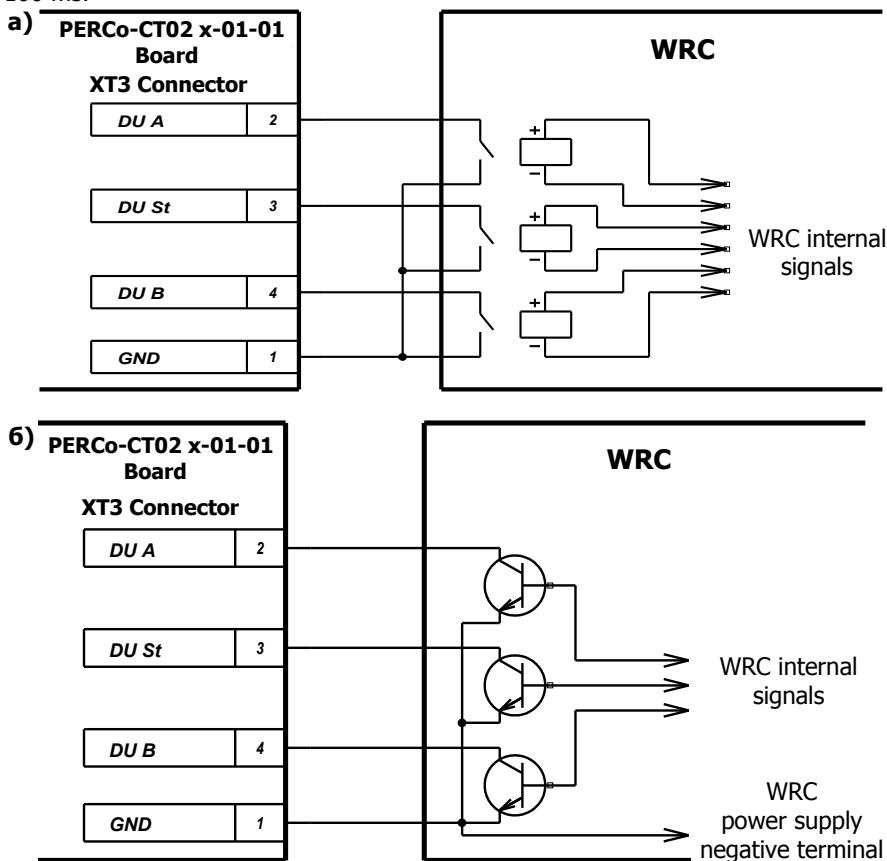

Figure 4 – Control elements of wireless remote control (WRC):
5.4.2 KT-02 is operated by input of a low-level signal relative to the «GND» contact at the contacts DUA, DUST and DUB of the connector block "XT3" while either a normally open relay contact or a circuit with open-collector output can be used as the control element. (ref. Figure 4).